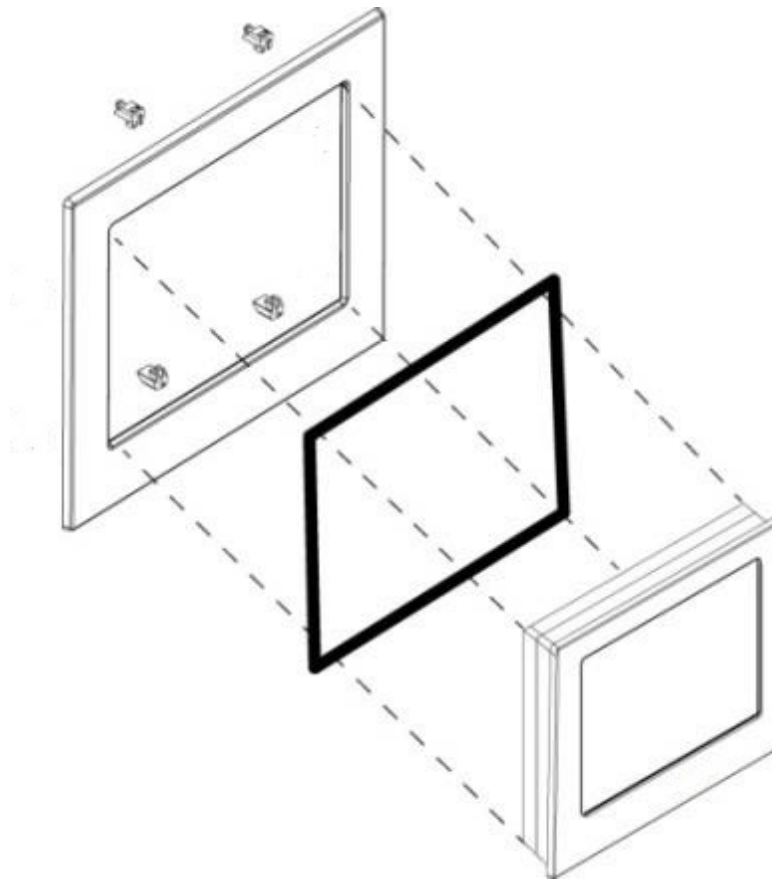

Figure 5. HMI Panel Mounting
- Slide the HMI panel into the cutout, ensuring that the rubber seal is in place as shown in Figure 5.
- Push the four mounting brackets into their slots on the sides of the HMI panel as shown in Figure 5.